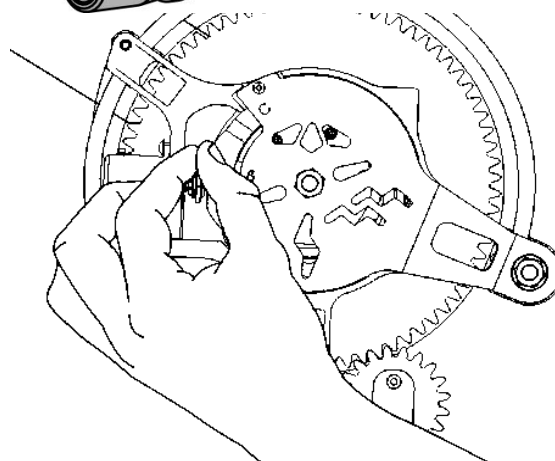

Figure 2 :
- Block the crank with your forearm, then unlock the locking tab (Production position) as shown on figure 2.